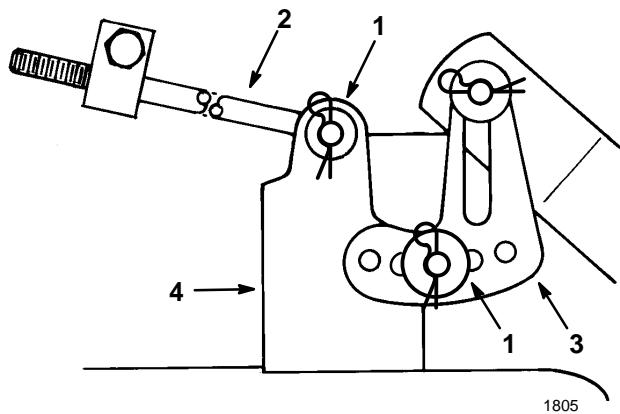

Figure 41
10. Remove the hair pin cotter and washer from the end of the long rod (Fig. 41). Now slide the rod out of the mower mount. Repeat this step on the opposite side of the mower.
11. Remove the hairpin cotter and washer at the mower leveling bracket (Fig. 41). Slide the bracket off the mounting pin. Re-install the washer and hairpin cotter for storage.